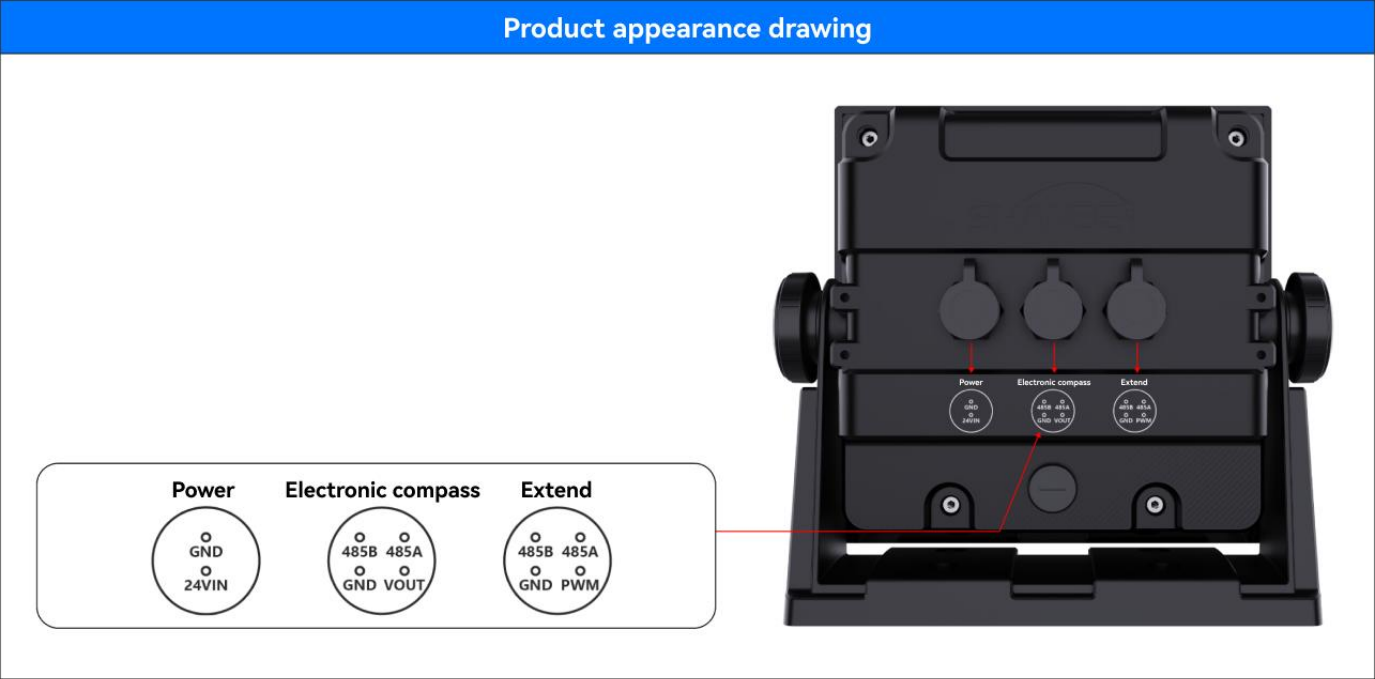

Figure 1.3
2. Connect the 2-core cable to the power socket with the red terminal of the cable and the black terminal of the cable to the 24V negative terminal, as shown in Figure 1.3.